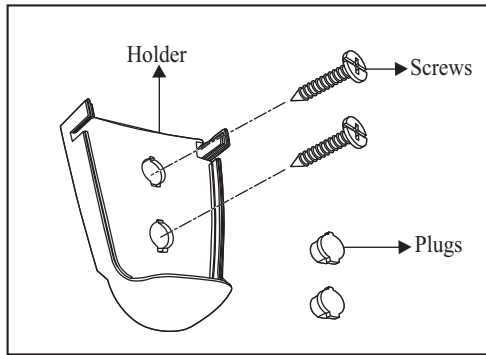

Figure 26
1. Remove the two plugs from the holder. Note that the plugs have unique tabs that allows them to fit only in one hole. (Fig. 26)